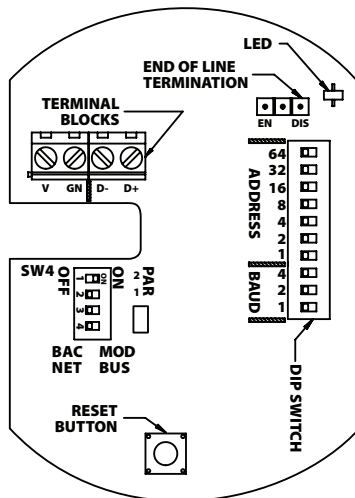
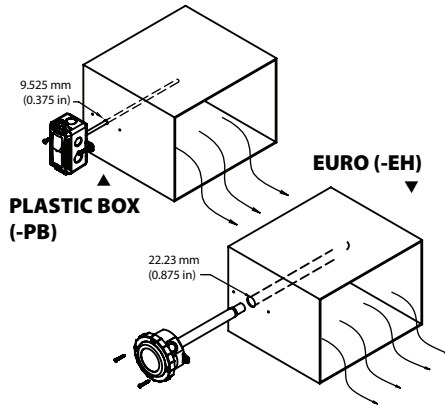
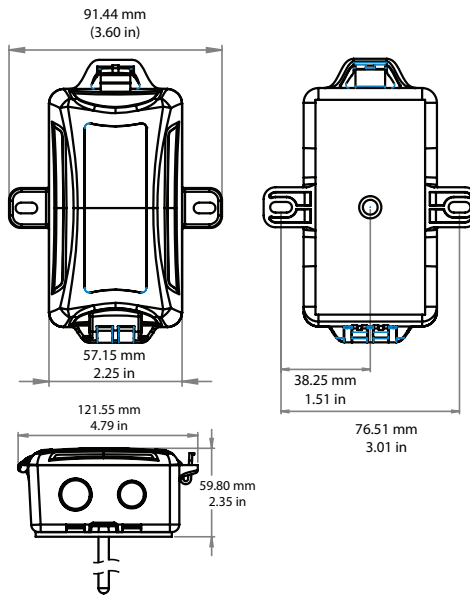
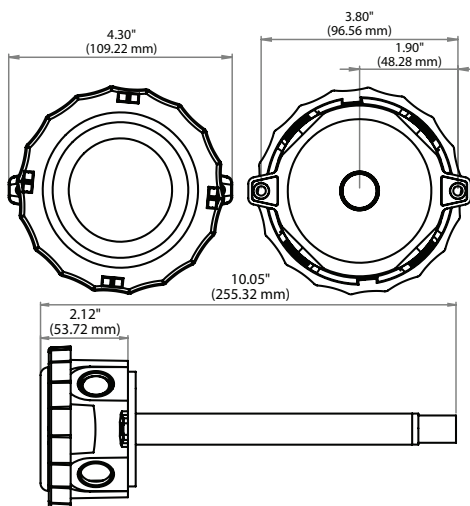

Figure 1: Front View Layout
Figure 2: Duct Mounting
Figure 3: Enclosure Dimensions for Plastic Box (-PB) Temperature Only
Figure 4: Enclosure Dimensions for EURO (-EH) RH and RH/Temperature
- Duct probe should be placed (3) to (4) duct segments down from any bend or obstructions and away from 90° bends.
The BACnet/Modbus RTU Duct Temperature-only sensor uses the Plastic Box (-PB) enclosure. Alternatively, the Euro (-EH) enclosure is used for the Relative Humidity (RH) sensor and RH/Temperature Combo sensor (see **Figure 3** and **Figure 4**). Be sure to follow the instructions listed for your enclosure.
Refer to the **Wiring Instructions** section to make necessary connections. After wiring, shut the cover of the enclosure. Reference **Figure 1**, **Figure 2**, and **Figure 3**.
After wiring, twist the cover until the enclosure is tightly sealed. Reference **Figure 1**, **Figure 2**, and **Figure 3**.
The reset button can be used to reset the device without disconnecting power. The location of this button is shown in Figure 1.